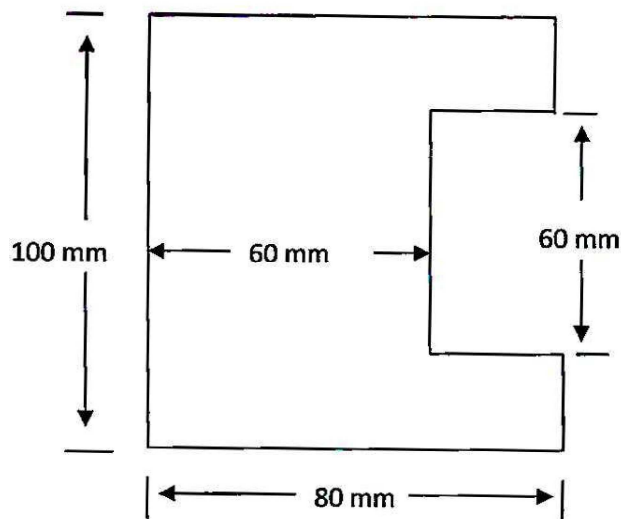

Fig. 1
8. (a) Determine center of pressure for the same component shown in figure 1. [6]